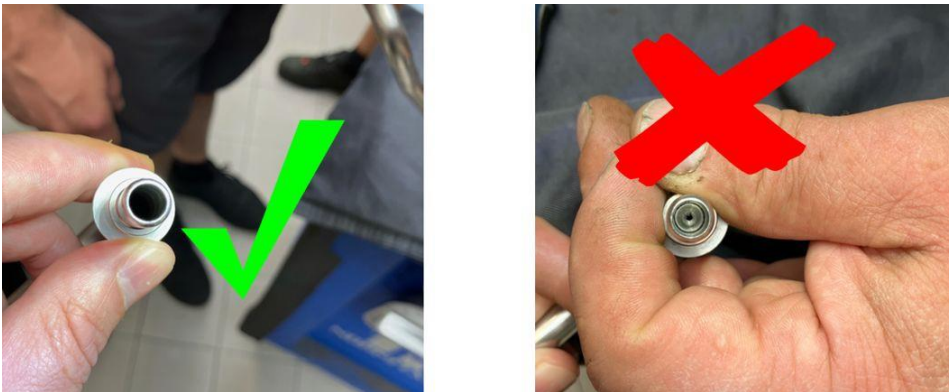

Figure 3
3) Referring to Figure 3 - Check to confirm if the fuel line is blocked/restricted